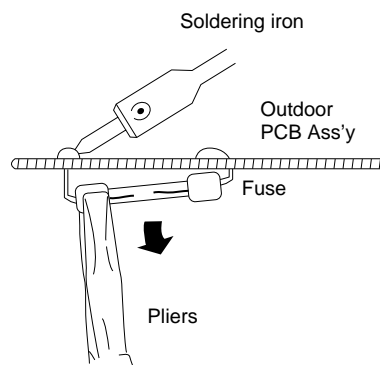

Fig. 5b
- (1) Remove the PCB Ass'y from the electrical component box.
- (2) Pull out the fuse at the metal clasp using pliers while heating the soldered leads on the back side of the PCB Ass'y with a soldering iron (30W or 60W). (Fig. 5b)
- (3) Remove the fuse ends one by one. For replacement insert a fuse of the same rating and solder it. (Allow time to radiate heat during soldering so that the fuse does not melt.)